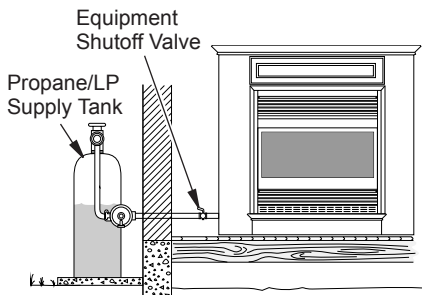

Figure 26 - Checking Gas Joints for Propane/LP Gas (Shown with Optional Mantel)
- Check all joints from gas meter for natural or propane/LP supply to equipment shutoff valve (see Figures 26 and 27, page 19). Apply a noncorrosive leak detection fluid to gas joints. Bubbles forming show a leak.
4. Check all joints from equipment shutoff valve to thermostat gas valve (see Figures 26 and 27). Apply a noncorrosive leak detection fluid to gas joints. Bubbles forming show a leak.